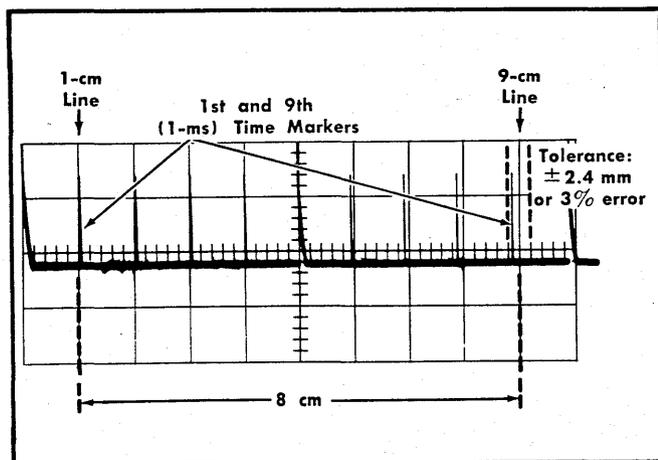

Fig. 5-2. Determining sweep rate accuracy.
b. Check—A sweep timing as indicated in Table 5-1. Timing checked within the center 8 cm of the graticule area and must be within 3%. See Fig. 5-2.